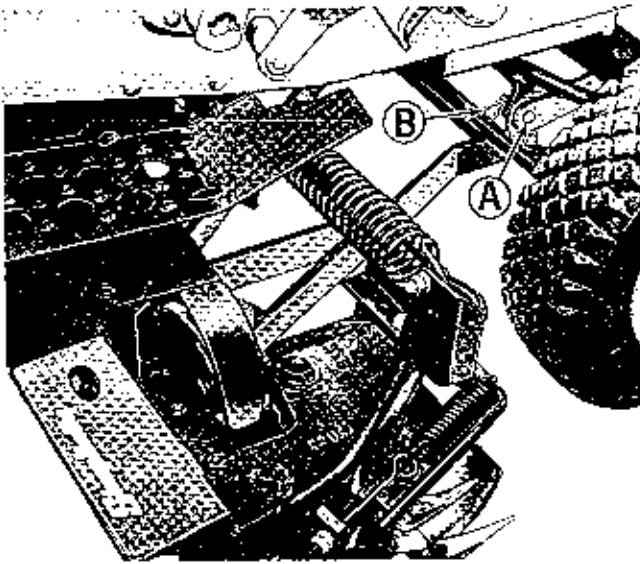

Figure 1. Sickle bar pinned to tractor axle as seen from right side of tractor.
2. See figure 1. Slide the sickle bar mower under the tractor from the right side and use two pins (A) and spring clips (B) to attach it to the tractor front axle.
7. See figure 1. Remove two spring clips (B) and pins (A) to disconnect the sickle bar mower from the tractor front axle. Slide the sickle bar mower out from under the right side of the tractor.